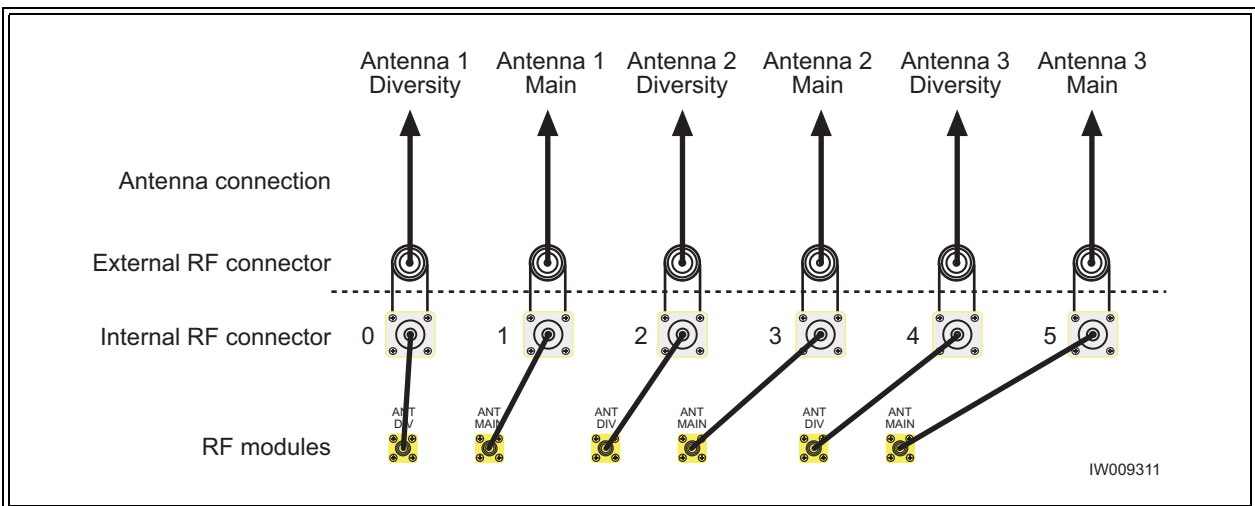

Figure 2-24 Antenna Cabling for S211 Configuration
- Connect your antennas as shown in Figure 2-24.